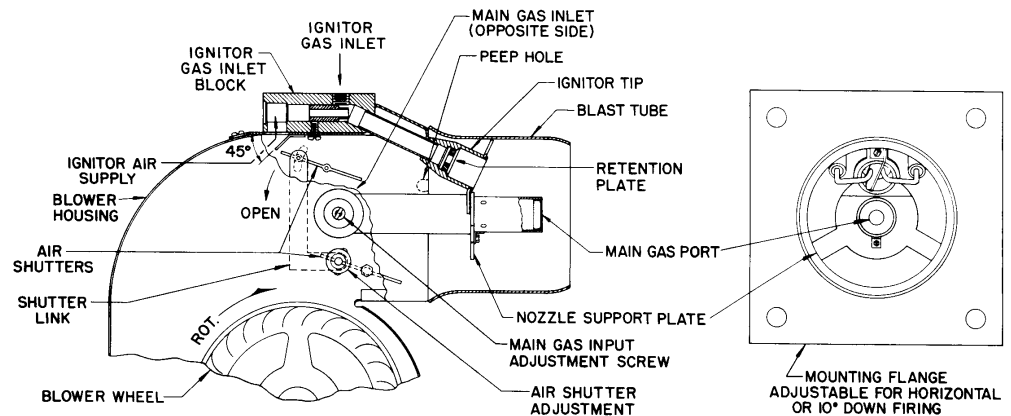

Figure 4: General Burner Head Assembly
10. Remove the input adjuster cap (see Figure 4) and, with the Ignitor and Main Flame on, turn the Main Gas Input Adjusting Screw (see Figure 4) until the desired input rating is reached (refer to Table 2). Turning of adjustment screw counterclockwise increases gas flow; clockwise reduces flow. If Main Flame gas pressure requires adjustment, refer to Section V Piping Supply.
- Check that the Ignitor Air Deflector is at the correct angle (45°). See Figure 4.